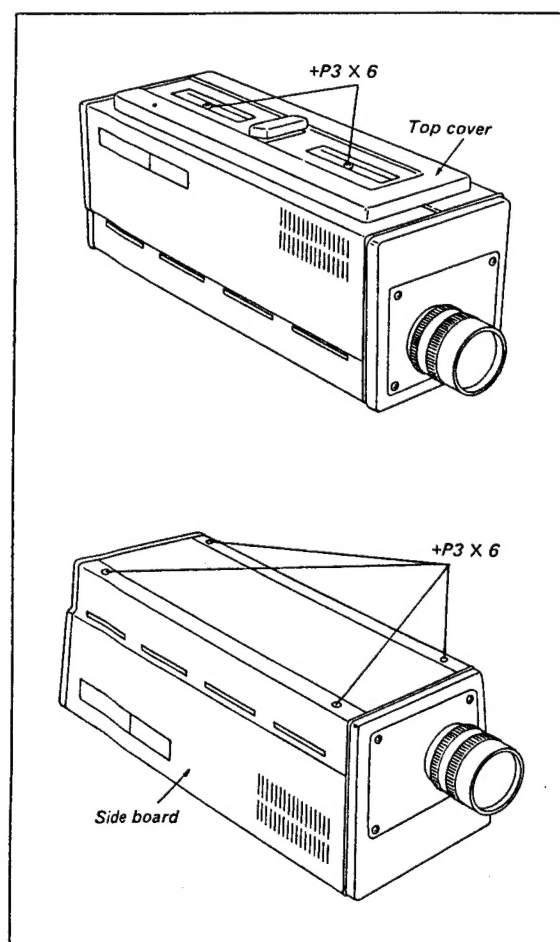

Fig. 3-1. Cabinet removal
1. Stand the camera in its normal position as shown in Fig. 3-1.
3. Turn the camera upside down as shown in Fig. 3-1.